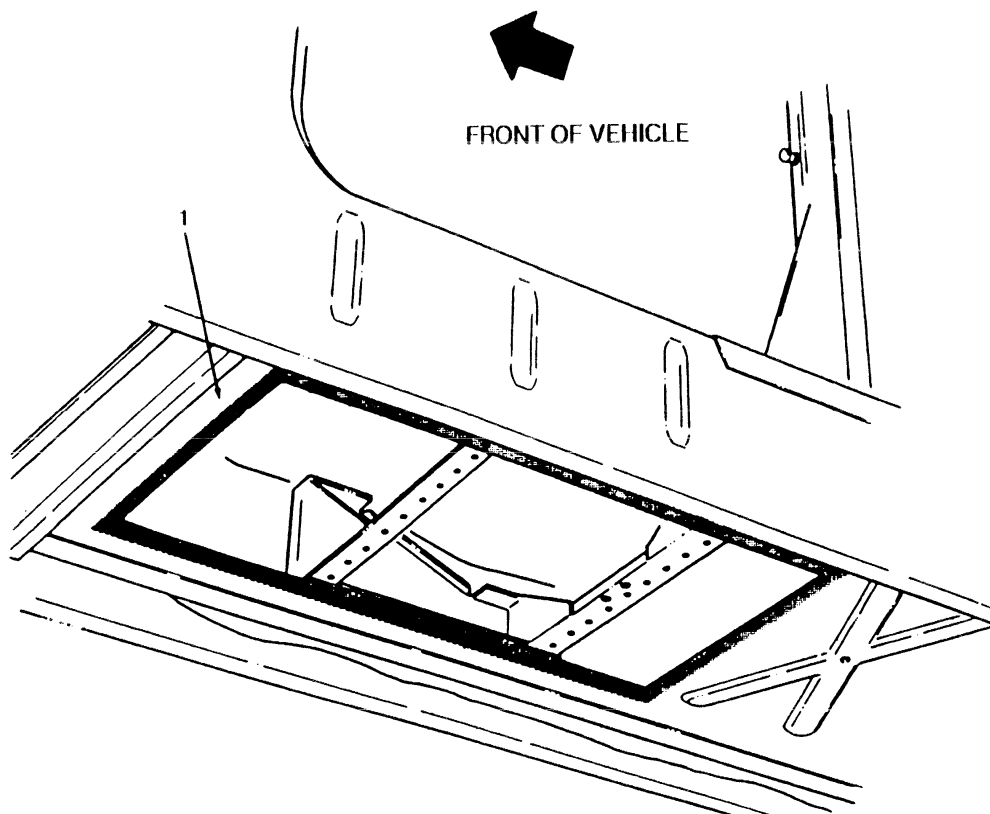

FIGURE 3-57
5. Apply approximately 0.125-inch thickness of P/N 89616 Silaprene adhesive sealant to area surface shaded on underside of left front floor panel (1). (see figure 3-57)